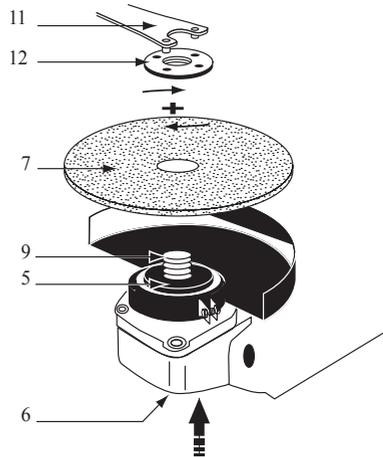

Fig. 2
6.3 Mounting a grinding disc (Fig. 2)